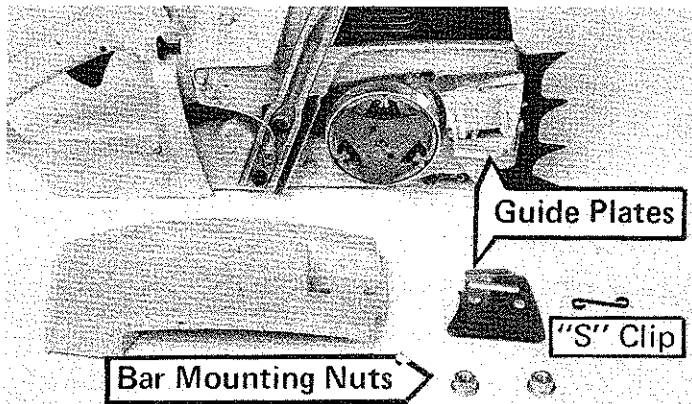

Figure 2
2. Remove the bar clamp and outer guide bar plate. (Note position of the guide plates.) FIGURE 2.